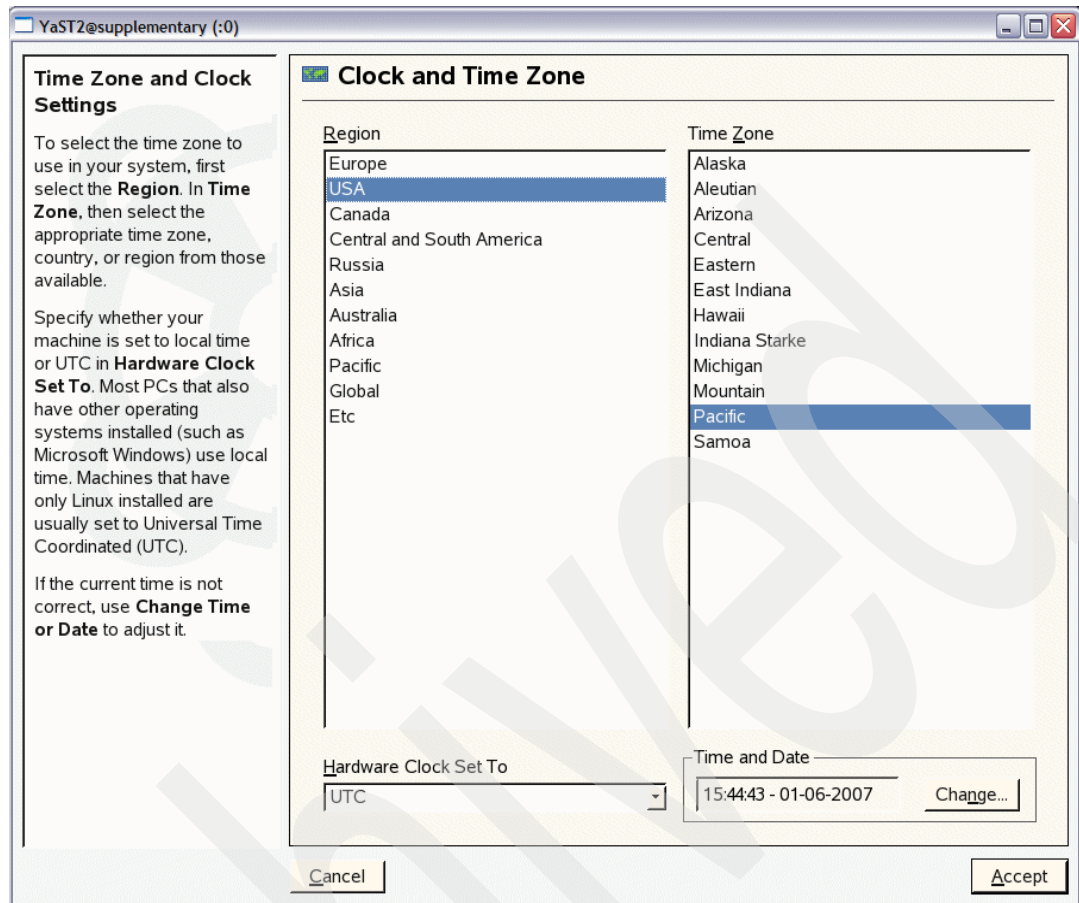

Figure 3-14 The yast2 time zone
- b. Select your region first and then your time zone and click **Accept**. See Figure 3-14 on page 123.